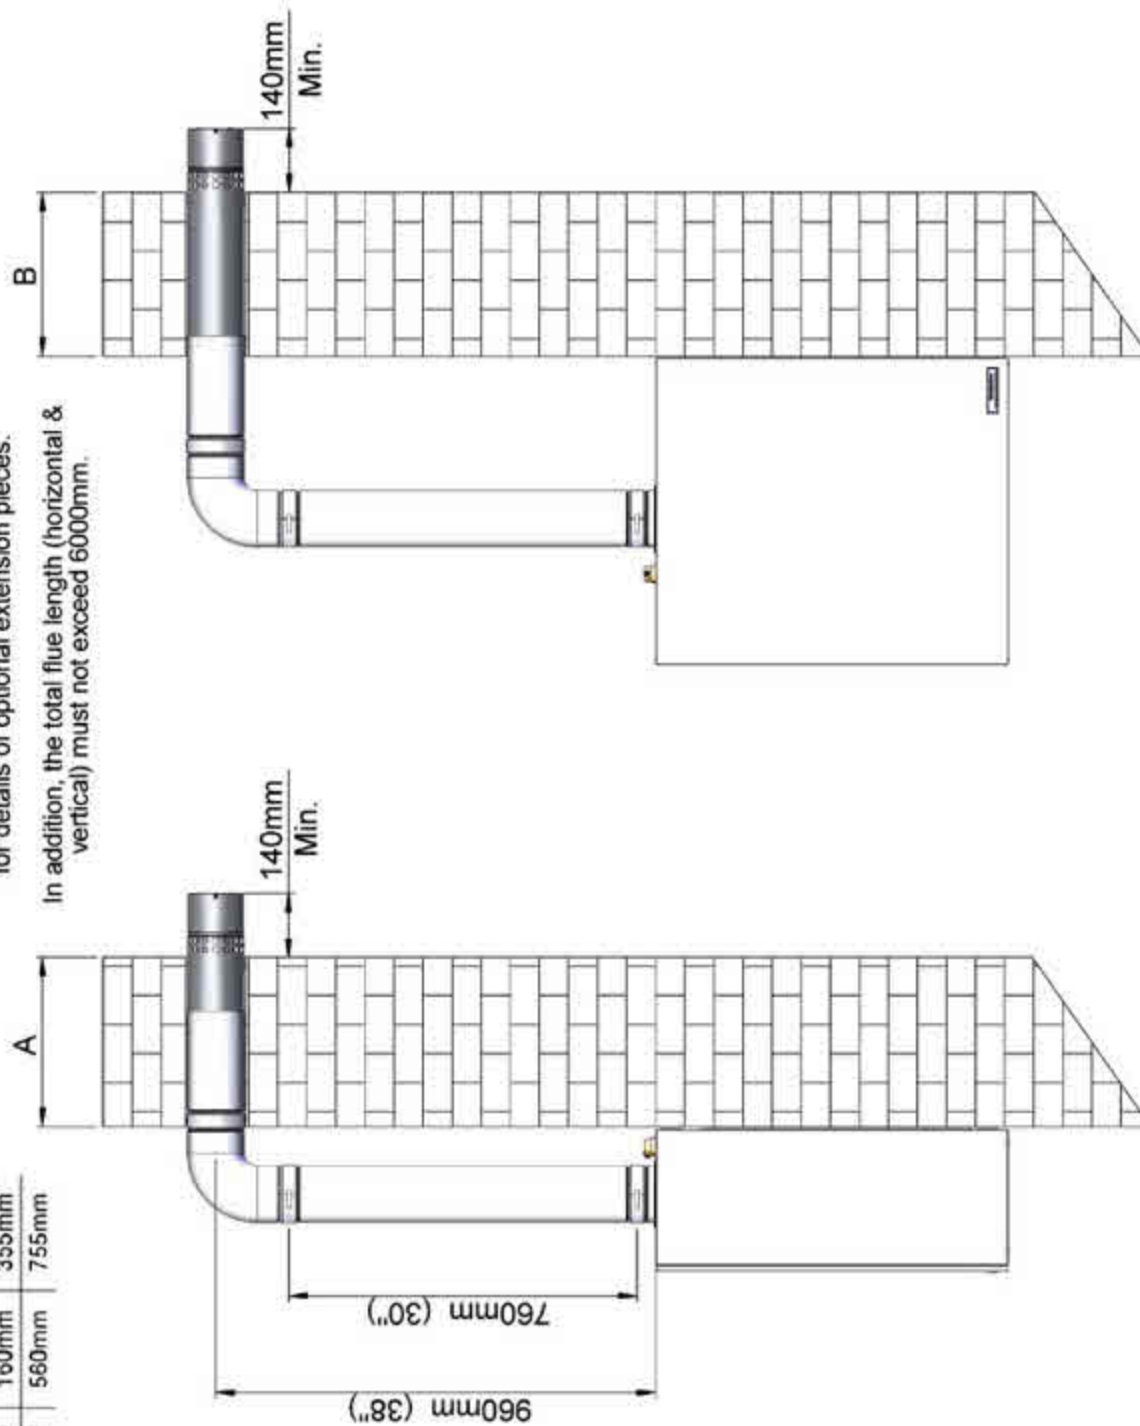

FIG 25
1. Having decided the position of the boiler, cut a hole 130mm diameter in the wall. Refer to **fig 25** and "alternative flue heights" for high level flue positions.
3. Fit the lower flue section (**item 4**) to the spigot (**item 6**), now situated on top of the boiler, ensuring the 'O'-ring creates a good seal.
Should the height of the flue (see **fig 25**) not meet your requirements, alternative arrangements can be made by purchasing additional sections of flue pipe to extend the vertical distance. See **page 29** for details.